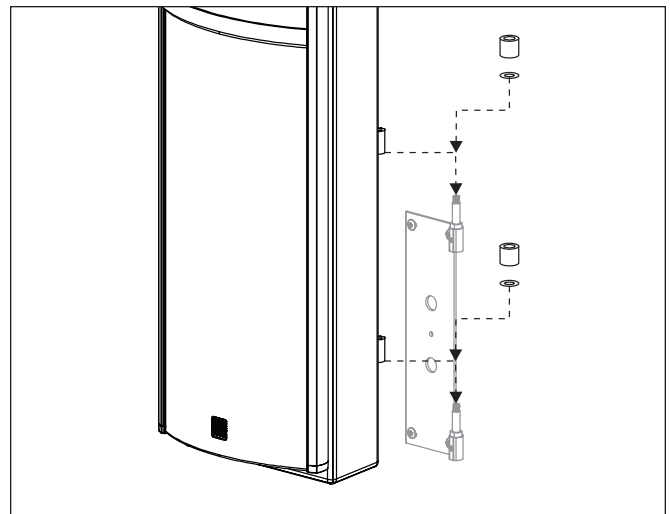

Figure 7. Steps 8–10
- 9 Place the EFX onto the wall bracket aligning the cylindrical parts of the cabinet bracket hinges with the upward pointing pins on the wall bracket. Carefully lower the EFX into place (see figure 7).
- 10 Using a 6mm Allen tool, attach a cap nut and washer on top of each pin, but do not fully tighten the cap nuts (see figure 7).